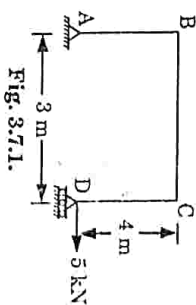

Fig. 3.7.1.
**Que 3.7.** Determine the horizontal displacement of the roller end D of the portal frame shown in Fig. 3.7.1. EI is 8000 kN-m2 throughout.